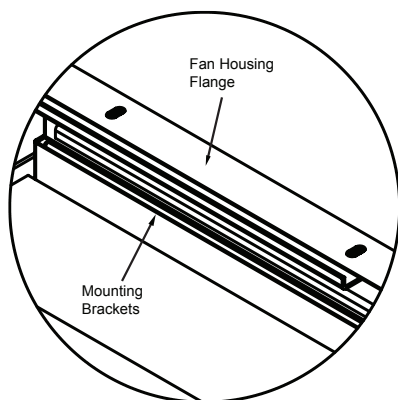
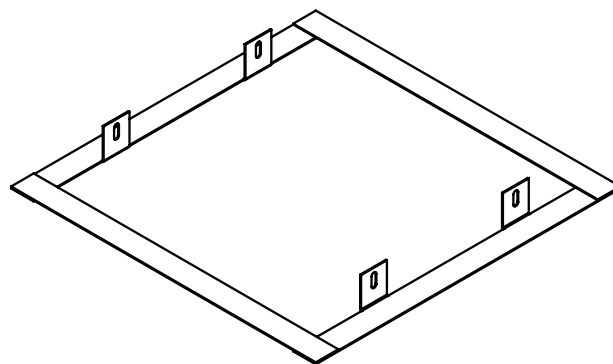

Figure 3
Figure 4
4. With the damper secured to the fan housing, attach the supplied mounting brackets. Position the mounting brackets under the damper mounting flanges or under the fan housing flange as required. Position the slot so it aligns with the holes in the fan housing and/or the holes in the damper mounting flanges (See Figure 3). The brackets can be adjusted to fit between the damper supports. Once the brackets are adjusted, attach them to the flange of the fan housing using four #10-32 screws and nuts supplied. A minimum of two fasteners per side is required.
5. Fasten the support brackets to the damper supports with a minimum 2" (51) long #8 wood screws at a minimum of 1 place per bracket. Be sure the bottom of the damper/fan will be flush with the bottom of the gypsum once it is installed. Locate the damper/fan based on the presence of a resilient channel and gypsum thickness. Please refer to the appropriate UL floor/ceiling or roof/ceiling design for reference.
6. Once the gypsum is in place install the drywall support assembly (See Figure 4) to the damper using the #8 coarse threaded screws supplied at four places minimum. The drywall support assembly must be installed snug to the bottom of the gypsum so the gypsum is resting on the drywall support assembly.